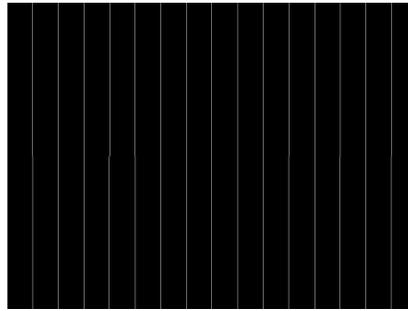

Figure 7. Example of Vertical Lines Test Pattern
11. As noted in Table 4, the colors for the vertical lines pattern are specified using both the foreground and background colors. The foreground color is used for the vertical lines, and the background color is used for the space between the lines. As noted in Table 5, the user specifies the foreground line width, as well as the background line width. The user must determine the line spacing for each resolution display. For example, if the foreground line width = 1, and the background line width = 9, there would be a single pixel vertical line on every tenth line. An example of a vertical lines pattern is shown in Figure 7.